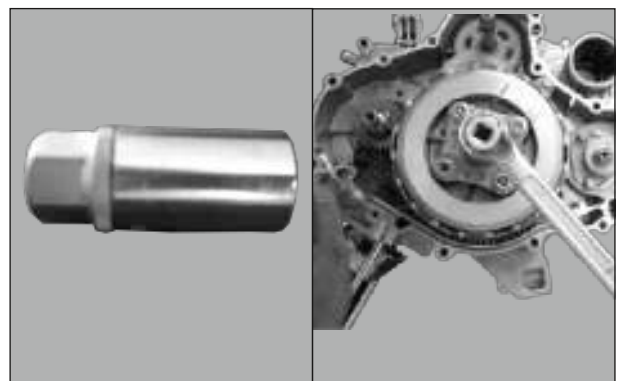

Fig. 1.6
- Insert the 21 mm Eastman socket spanner through plate release clutch and tighten the clutch nut using Tommy rod. (Fig. 1.6)